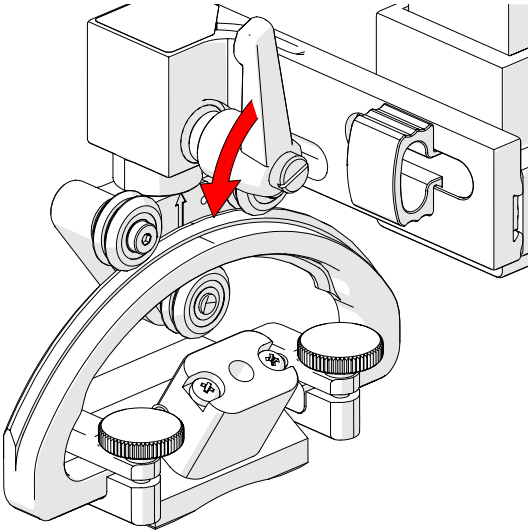

Fig. 236 - Loosen ratchet lever
1. Loosen the ratchet lever above the yoke (Fig. 236).